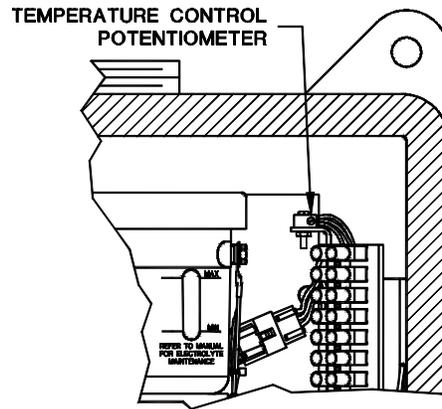

Figure 23: Temperature Control in R7 Enclosure
4) Locate the temperature control potentiometer on the circuit board in the enclosure above the terminal strip. See Figure 23. Turn it clockwise to increase the temperature and counter-clockwise to decrease it. After each adjustment re-cover the enclosure and allow at least an hour for it to stabilize at the new temperature.